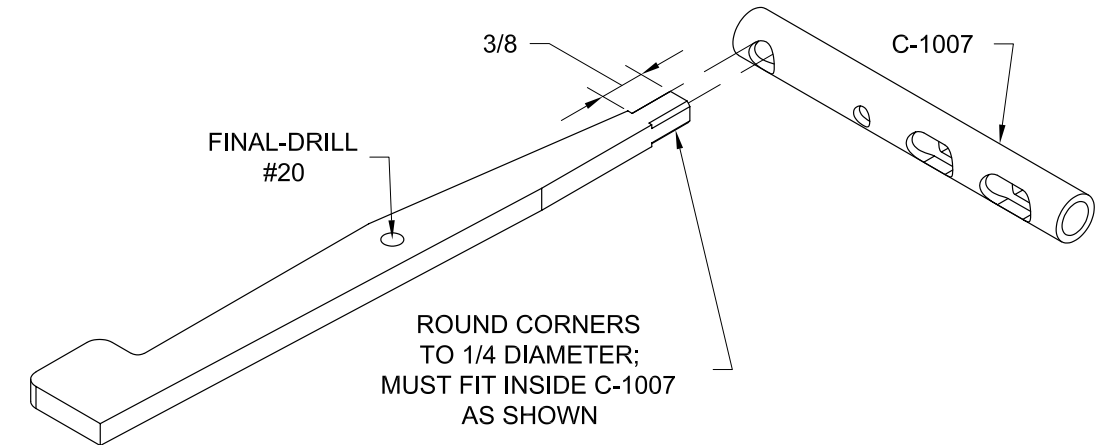

FIGURE 3: PREPARE HANDLE LEVER
Step 3: Final-Drill and round the corners of the narrow end of each C-1008 Handle Lever as shown in Figure 3. Smooth all edges of the handle levers.